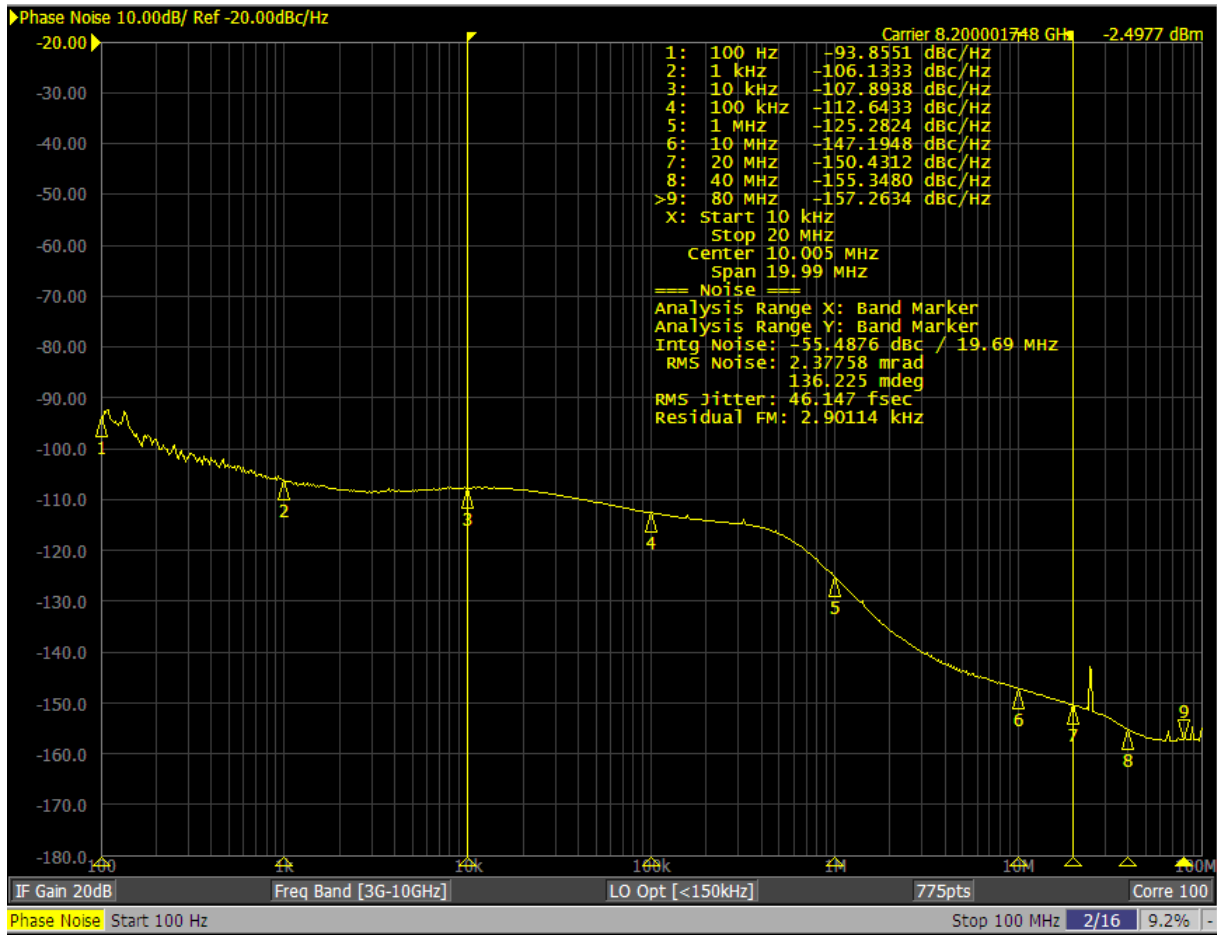

Figure 22. Expected Performance of 8200MHz Output with 1.1mA of Bleeder Current from Example 2
- b. Charge pump current can be used to vary the loop bandwidth, therefore optimize phase noise and/or integrated RMS jitter. Set Pmos = 8.5mA, Nmos = 8.5mA to get the performance shown in the phase noise plot in Figure 22.
Phase noise measurement results shown in Figure 22, Figure 24, and Figure 25 were obtained with the input reference clock from a bench signal generator. Because the in-band phase noise performance of 8V97003 RF/Microwave Synthesizer is dictated by the phase noise performance of the input reference, the input reference's phase noise performance is provided in Figure 26.